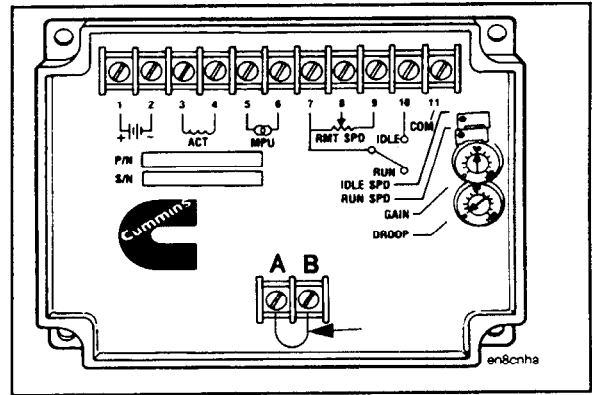

Figure 7-28. No Load Speed Adjust
3. Open the main line circuit breaker and adjust the no load governed speed again to the correct setting. See Figure 7-28.